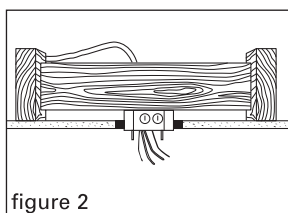

figure 2
2. Using the screws provided, mount the box to the 2 x 4 (figure 2).